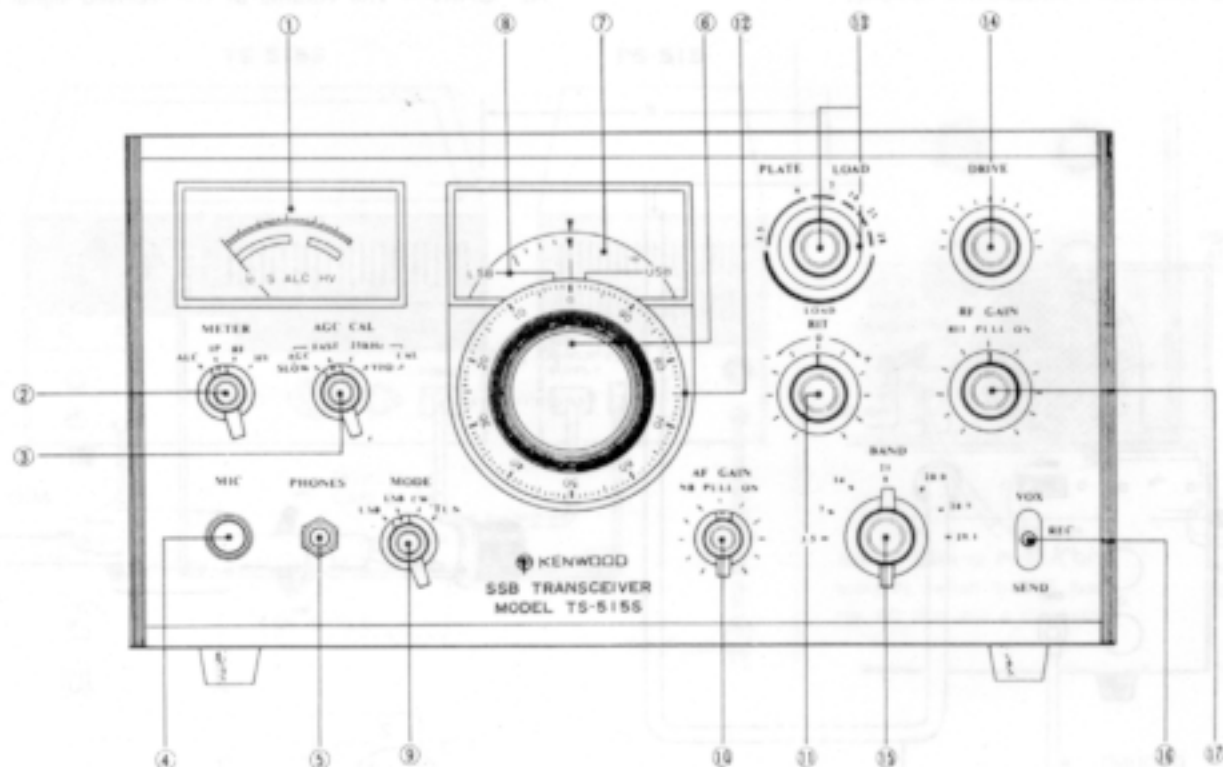

Fig. 5 TS-511S Front Panel Controls
#### Meter (1 on Fig. 5)
#### METER Switch (2 on Fig. 5)
#### AGC/CAL Switch (3 on Fig. 5)
#### MIC Microphone Connector (4 on Fig. 5)
#### PHONES Headphone Jack (5 on Fig. 5)
#### Main Tuning Knob (6 on Fig. 5)
#### Vernier Scale (7 on Fig. 5)
#### Dial Reference Lines (8 on Fig. 5)
#### MODE Switch (9 on Fig. 5)
#### AF GAIN, NB PULL ON, POWER OFF Switch (10 on Fig. 5)
**RIT Receiver Incremental Tuning Control** (11 on Fig. 5)
**Main Dial Skirt** (12 on Fig. 5)
**PLATE/LOAD Plate Tuning/Load Adjustment** (13 on Fig. 5)
**DRIVE Driver Tuning Control** (14 on Fig. 5)
**BAND Switch** (15 on Fig. 5)
**VOX/REC/SEND Stand-By Switch** (16 on Fig. 5)
**RF GAIN/RIT PULL ON** (17 on Fig. 5)